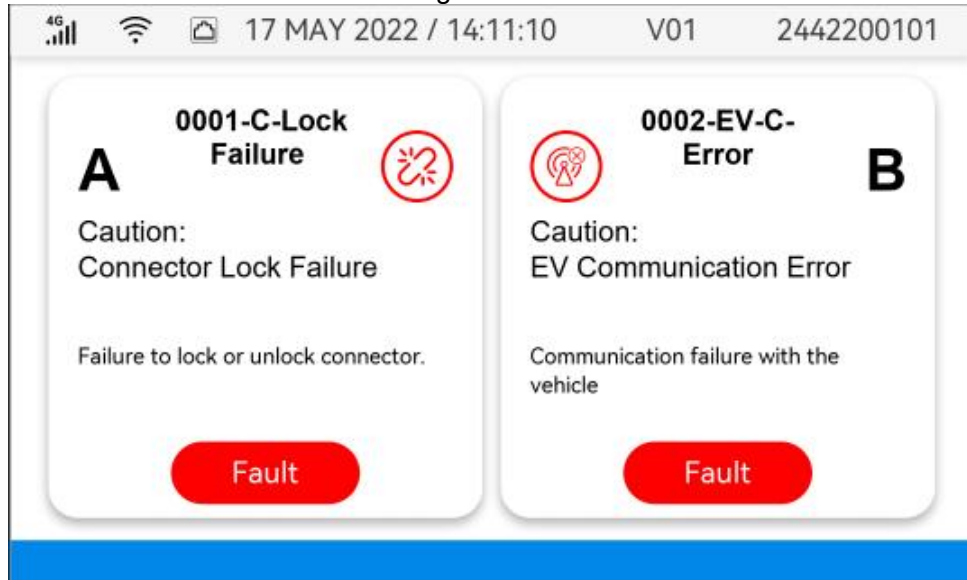

Fig. 6-6 Display of fault state
- If the charging process fails or the equipment fails, the picture displayed on the LCD screen is shown in Fig. 6-6.